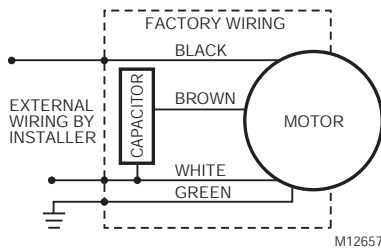

Fig. 3. Typical F111 (series 1 & 2) 120V, 60 Hz or 208/230V, 50/60 Hz wiring diagram.
5. Refer to Fig. 3 and 4 for typical electrical diagrams.